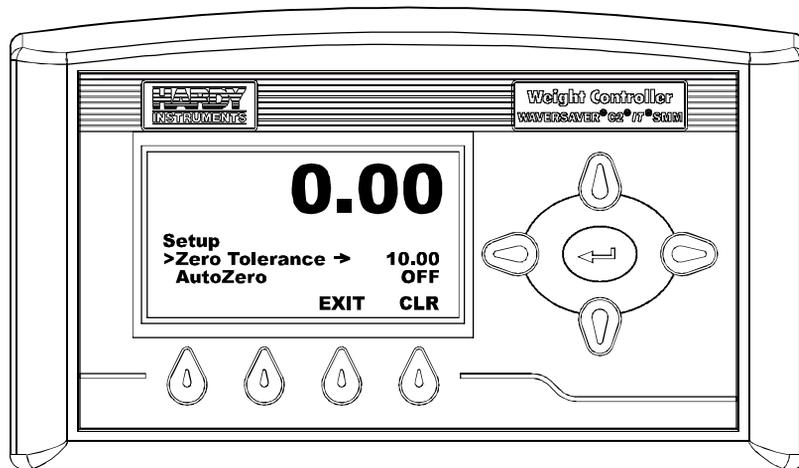

FIG. 77 SETUP MENU/SELECTING ZERO TOLERANCE
Step 1. Press the Down Arrow button until the cursor is in front of Zero Tolerance. (See Fig. 77) The current zero tolerance value is displayed.